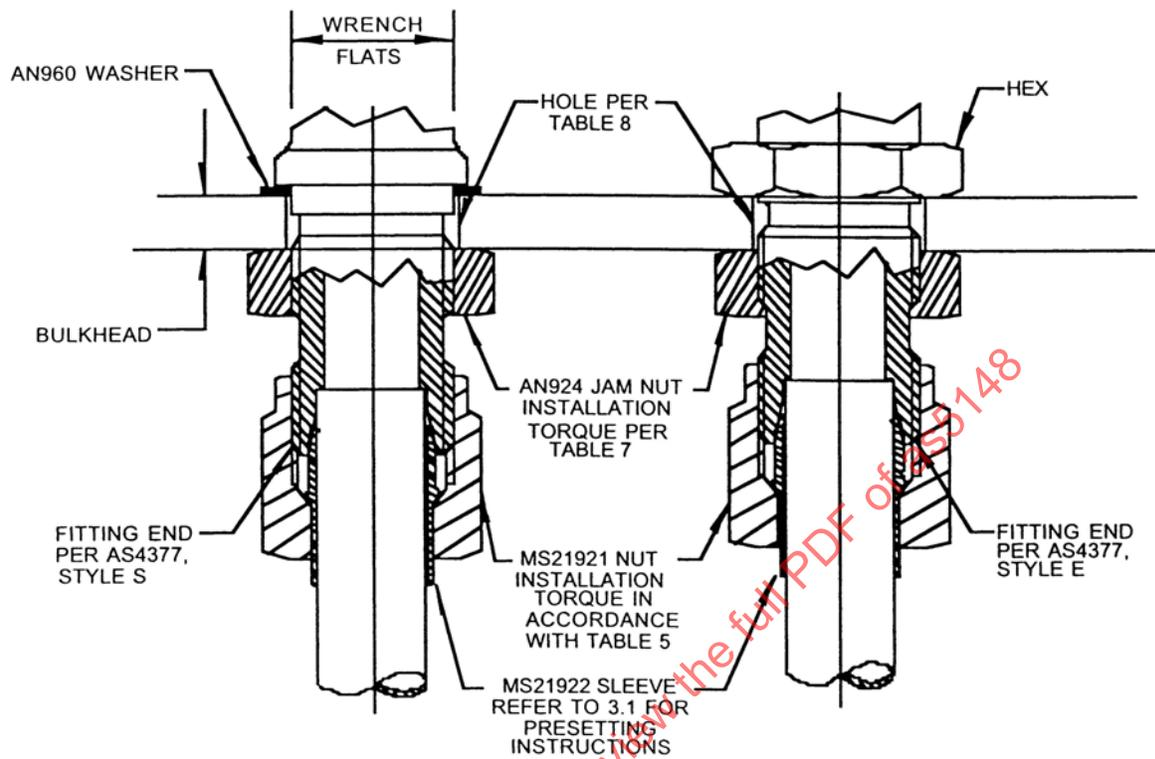

FIGURE 4 Bulkhead Fitting Installation
- 4.1 Refer to Figure 4 for example of installation.
- 4.3.1 Refer to Figure 4 for example of installation.